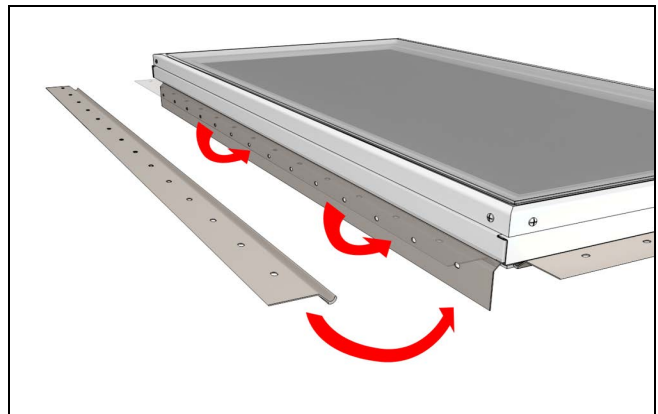

Figure 42
**12.** Install mounting flanges. Install on ground, may need to use force to insert in kerf. Corners of flange are sharp, use caution when installing. See Figure 42.